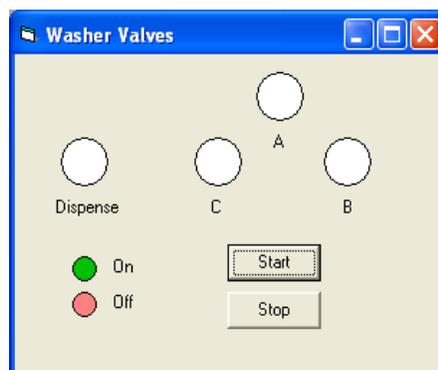

Figure 5-69: Washer Valves Dialog Box
- Press **Start** on the *Washer Valves* dialog box (Figure 5-69).